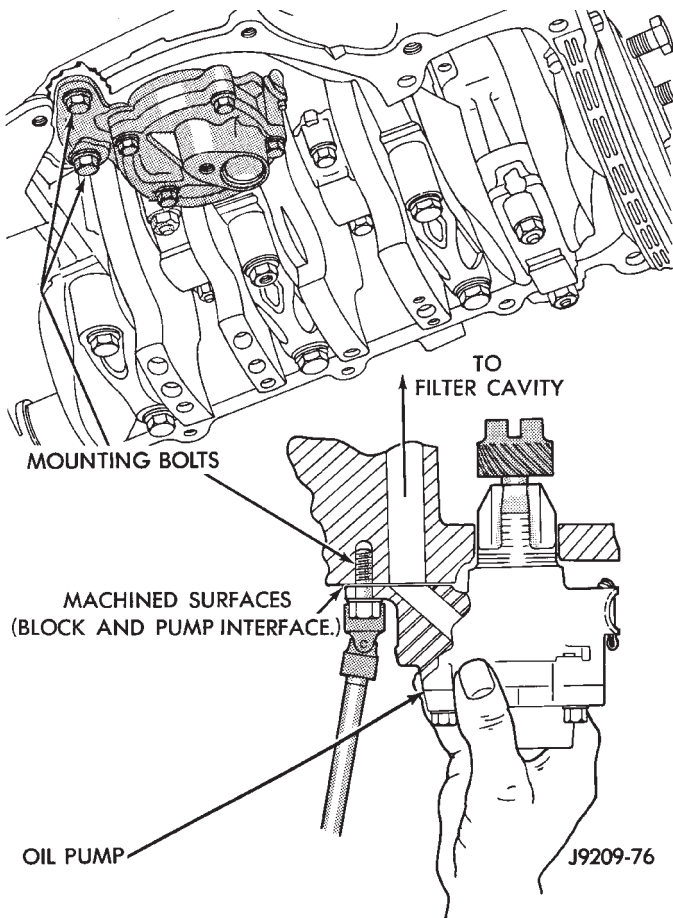

Fig. 5 Oil Pump Assembly
(1) Remove two (2) screws holding oil pump to cylinder block assembly (Fig. 5).
(5) Install pump full depth and rotate back and forth slightly to ensure proper positioning and alignment through full surface contact of pump and block machined interface surfaces (Fig. 5).